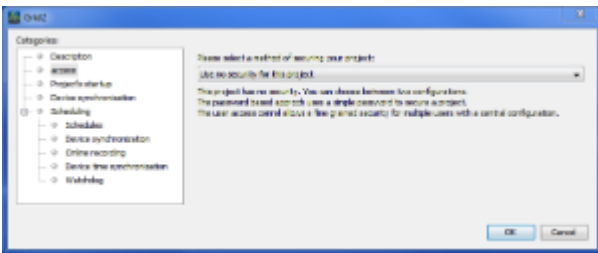

Fig. 1: Access protection for project
- Select the project properties by right clicking the respective project in the "*Project window*" or select the project in the "*Projects window*" and open the properties via the menu item "File/Project Properties" (Fig. 1).